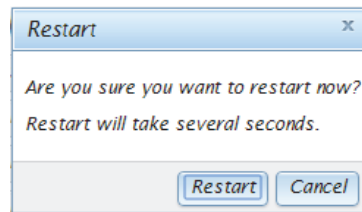

Figure A-8. Restart Dialog Box
10. Click Restart to reboot. The Restart dialog box appears. See Figure A-8.